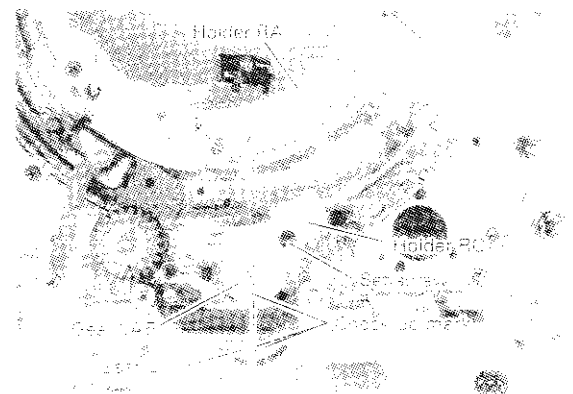

Fig. 3-21-2
- (1) Attach the holder RA to the main plate so that 3 positioning pins of the holder RA fit the positioning holes of the main plate, then fix with 3 fixing screws (1, 2, 3) (See Fig. 3-21-2).